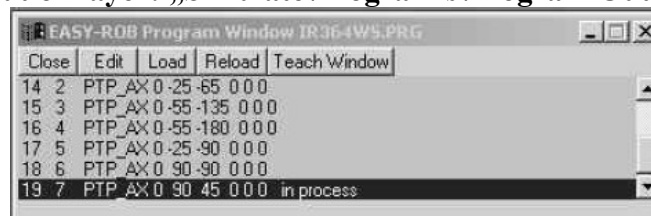

Fig. 2.12 Program window to trace execution
- in command execution layer: „Simulate\Program's\Program Output\" (Fig. 2.12)